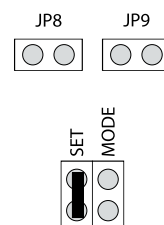

Figure 8
3. Set the jumper on SET pins. See Figure 8 for correct jumper position.